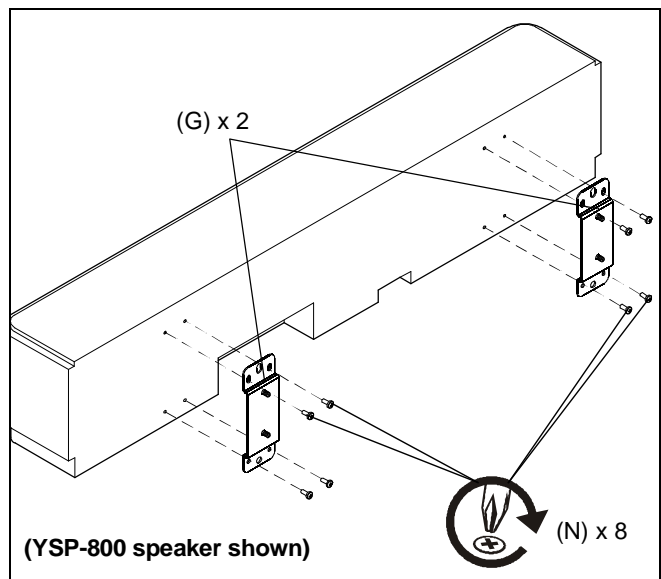
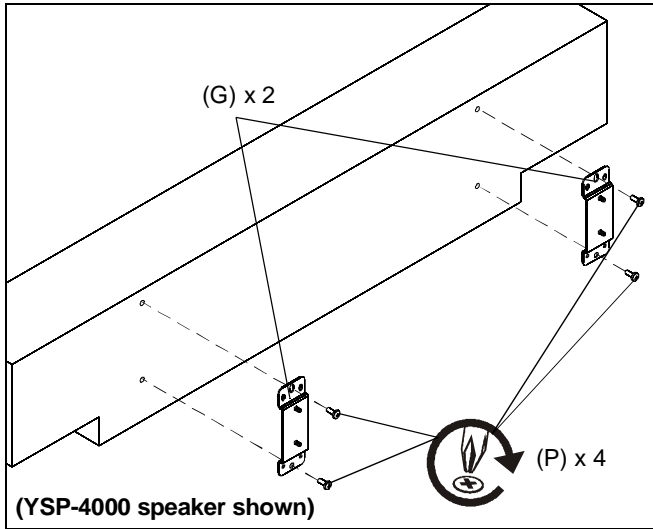

Figure 3
Figure 4
1. Align speaker adapters (G) with mounting holes in speaker back.
2. Mount two speaker adapters (G) to speaker assembly using eight M4x10mm Phillips pan head screws (N) for the YSP-800 speaker (See Figure 3), **OR** four M6x16mm Phillips panhead screws (P) for the YSP-4000/4100/5100 speakers. (See Figure 4)